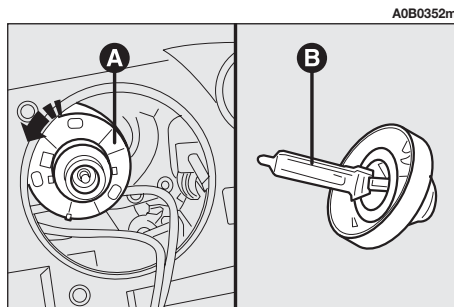

fig. 26
- Turn ring (**A-fig. 26**) counter-clockwise and remove it.
- Remove the Xenon lamp (**B-fig. 26**).